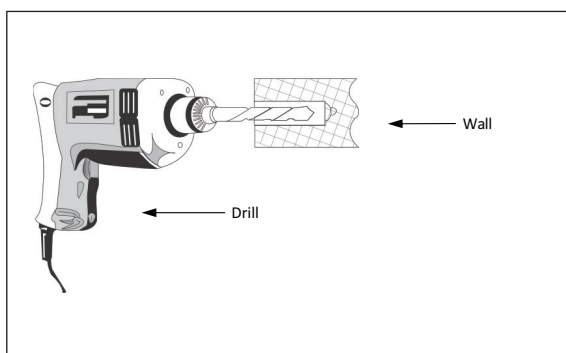

Figure 2
2. Use an appropriate tool to drill the holes on the exact marked position as shown in Figure 2.